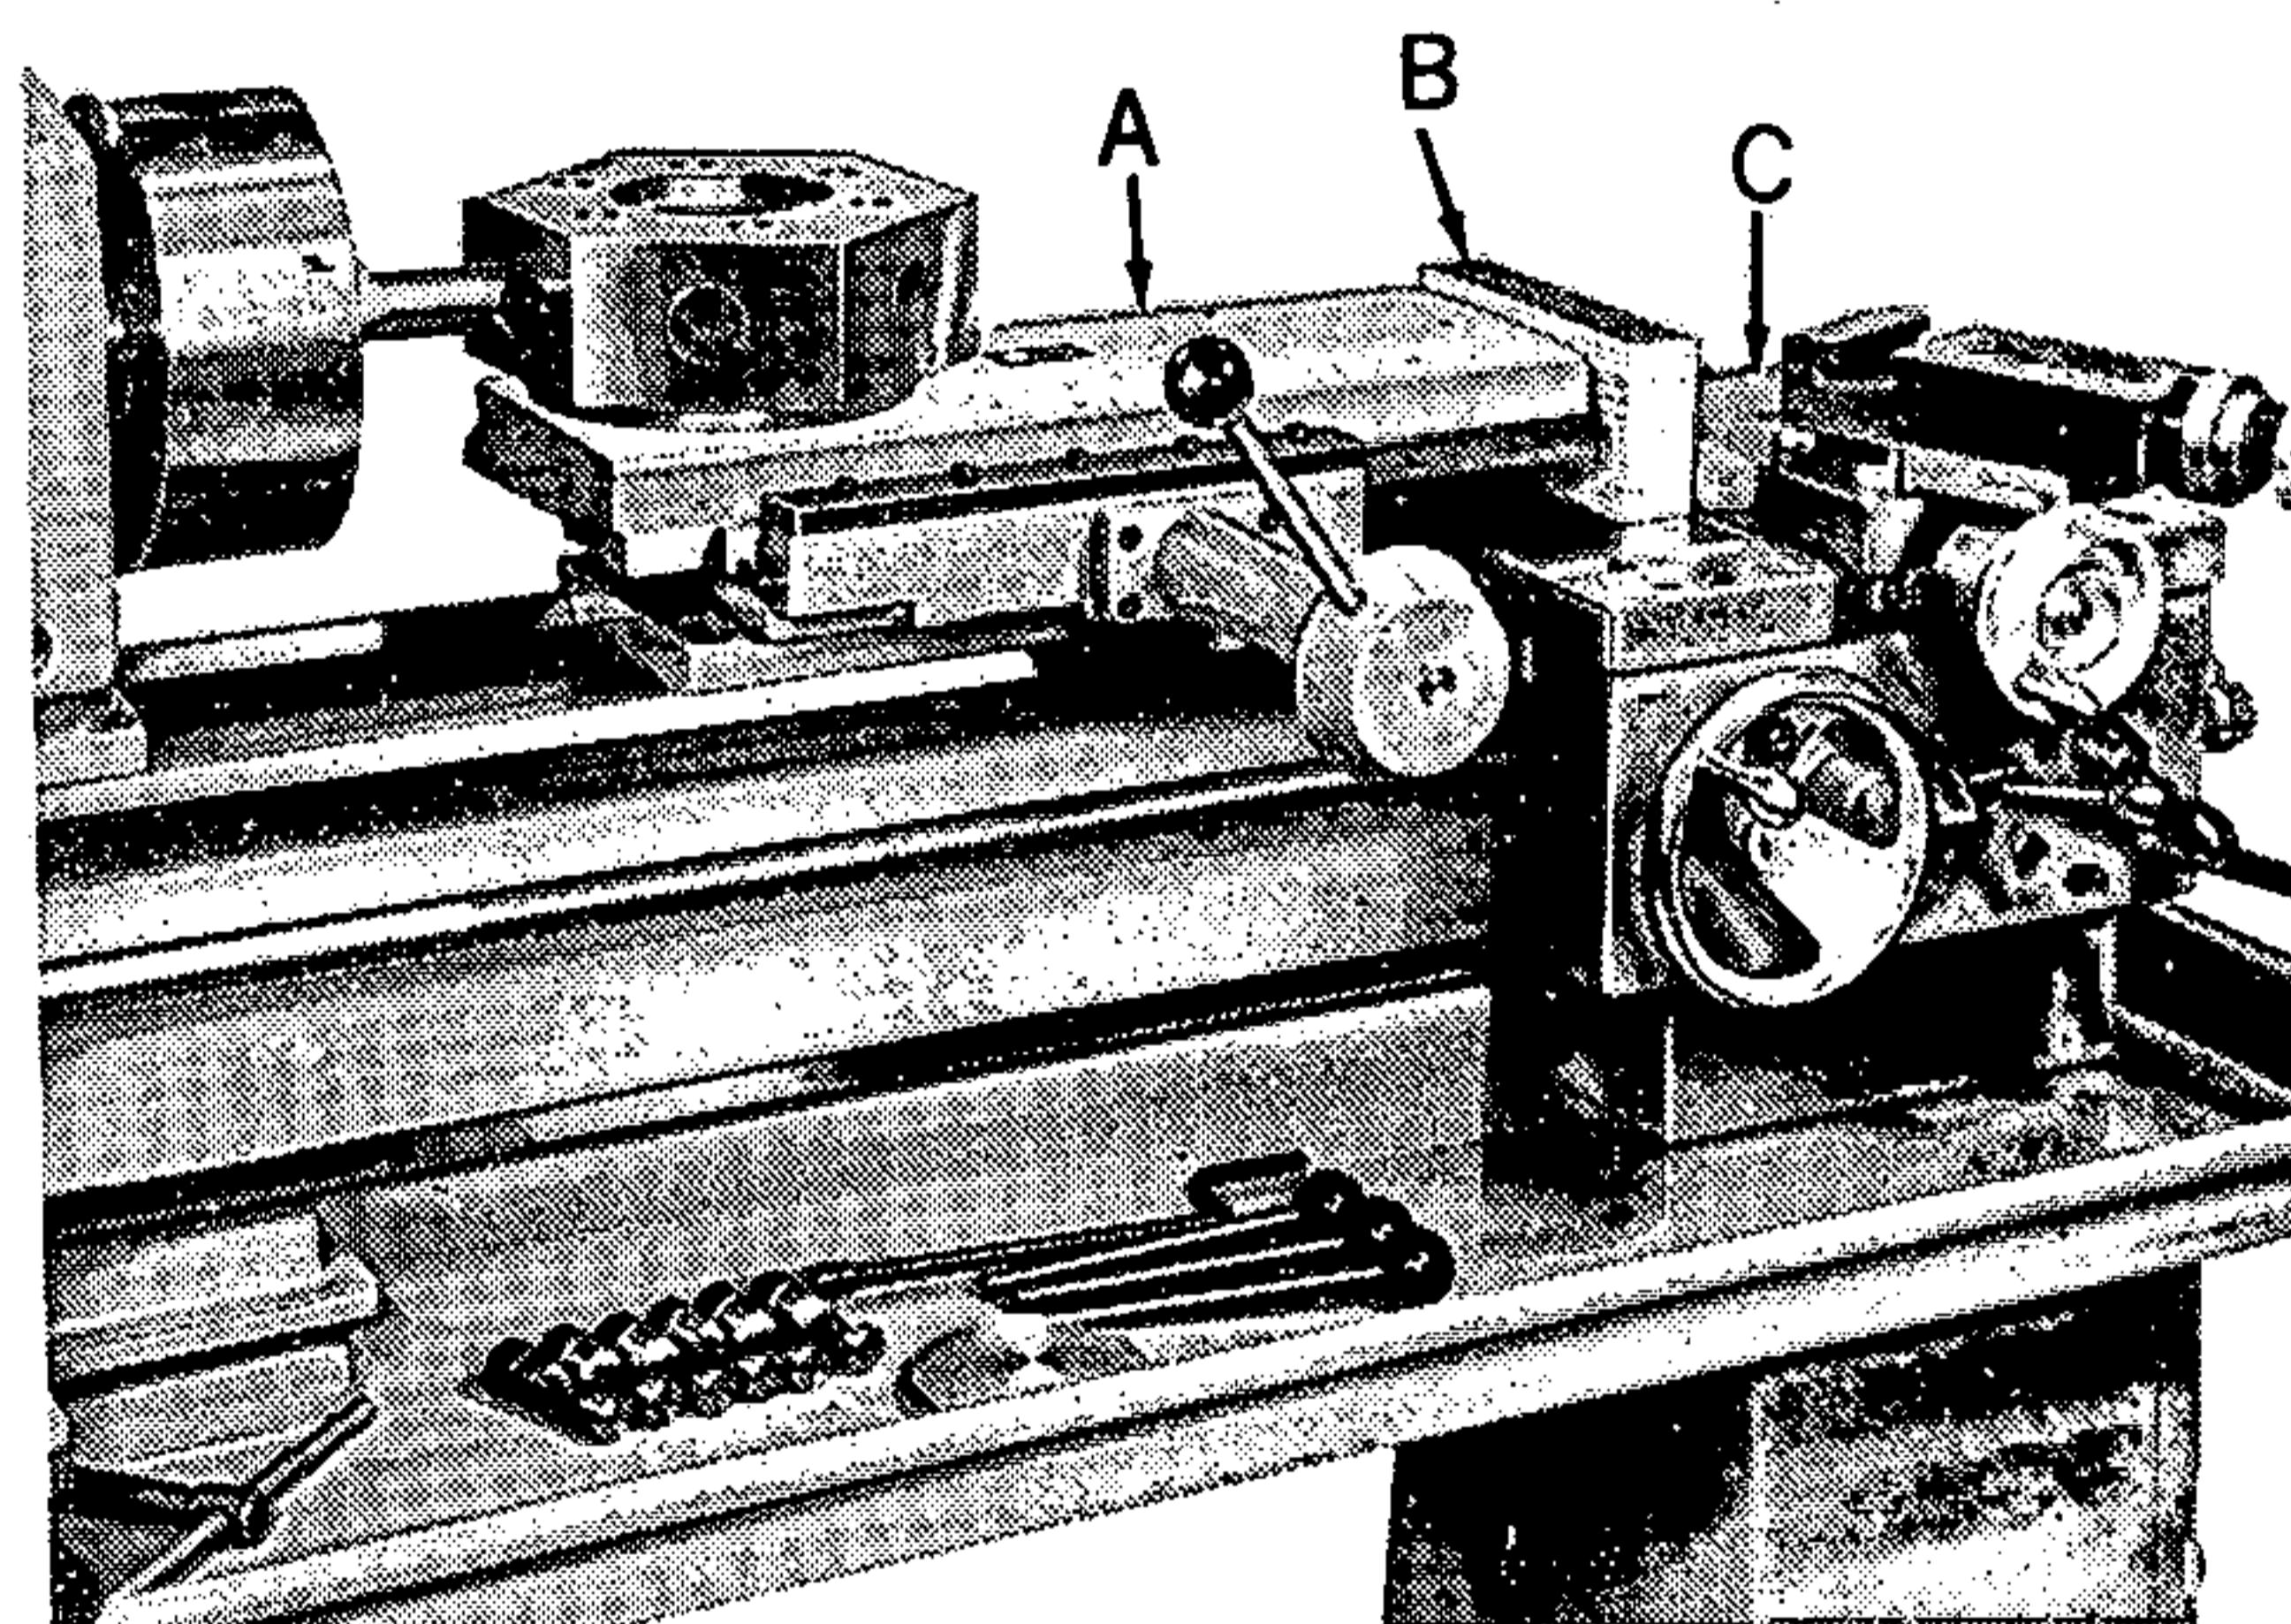

Figure 4
7. Place a wooden block (B, fig. 4) in front of carriage (C) to drive the turret slide (A).